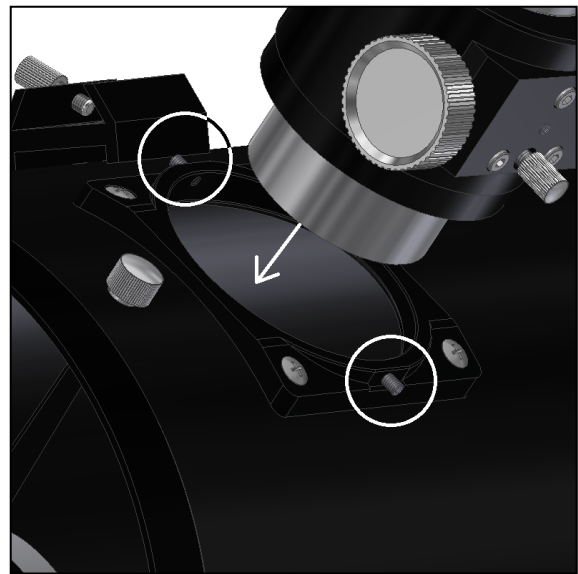

Figure 17. Installing the focuser (not included)
**5. Optional accessories (not included).** The Omegon Dobson telescope is supplied as a basic setup configuration i.e. only the optical tube and base. The focuser, finder scope and other accessories such as eyepieces are not included. Why? Because we want to give users the chance to configure the telescope to their own needs. For example if you have your own telescope eyepieces you surely don't need to buy new ones, simply use the existing ones and save. For the focuser we offer different focusers, basic and high-end focusers, the user can choose the ones which better suit their needs. Because these optional accessories are being constantly improved and update the following instructions are a basic guideline on how to install them to the telescope. **5.1. The focuser.** The focuser is an essential part of the telescope as it is used to get precise focused images. To install the focuser release the two set-screws as shown in figure 17 and insert the focuser base tube. Make sure the base tube fits the focuser base. The set screws should now be retightened to hold secure the focuser.